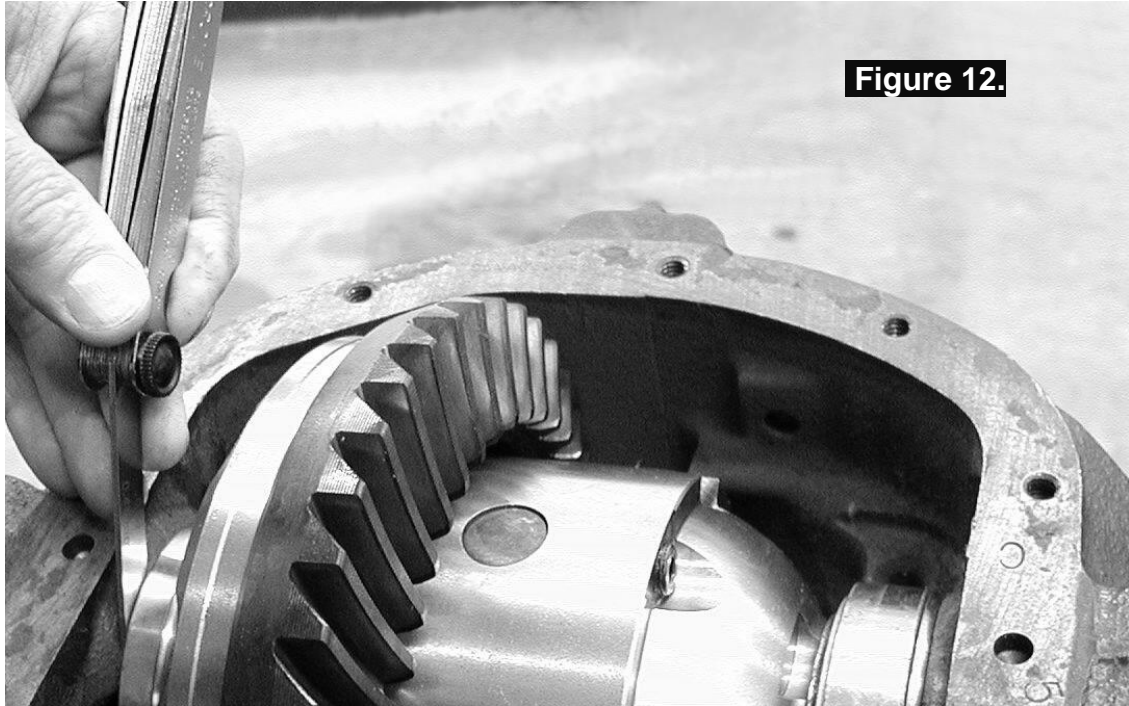

Figure 12.
- ☐ Push (or lightly pry) the *Air Locker* hard across to the right-hand side, and measure the gap (also called the 'end float') between the bearing cup and the housing with a feeler gauge (See Fig 12.).